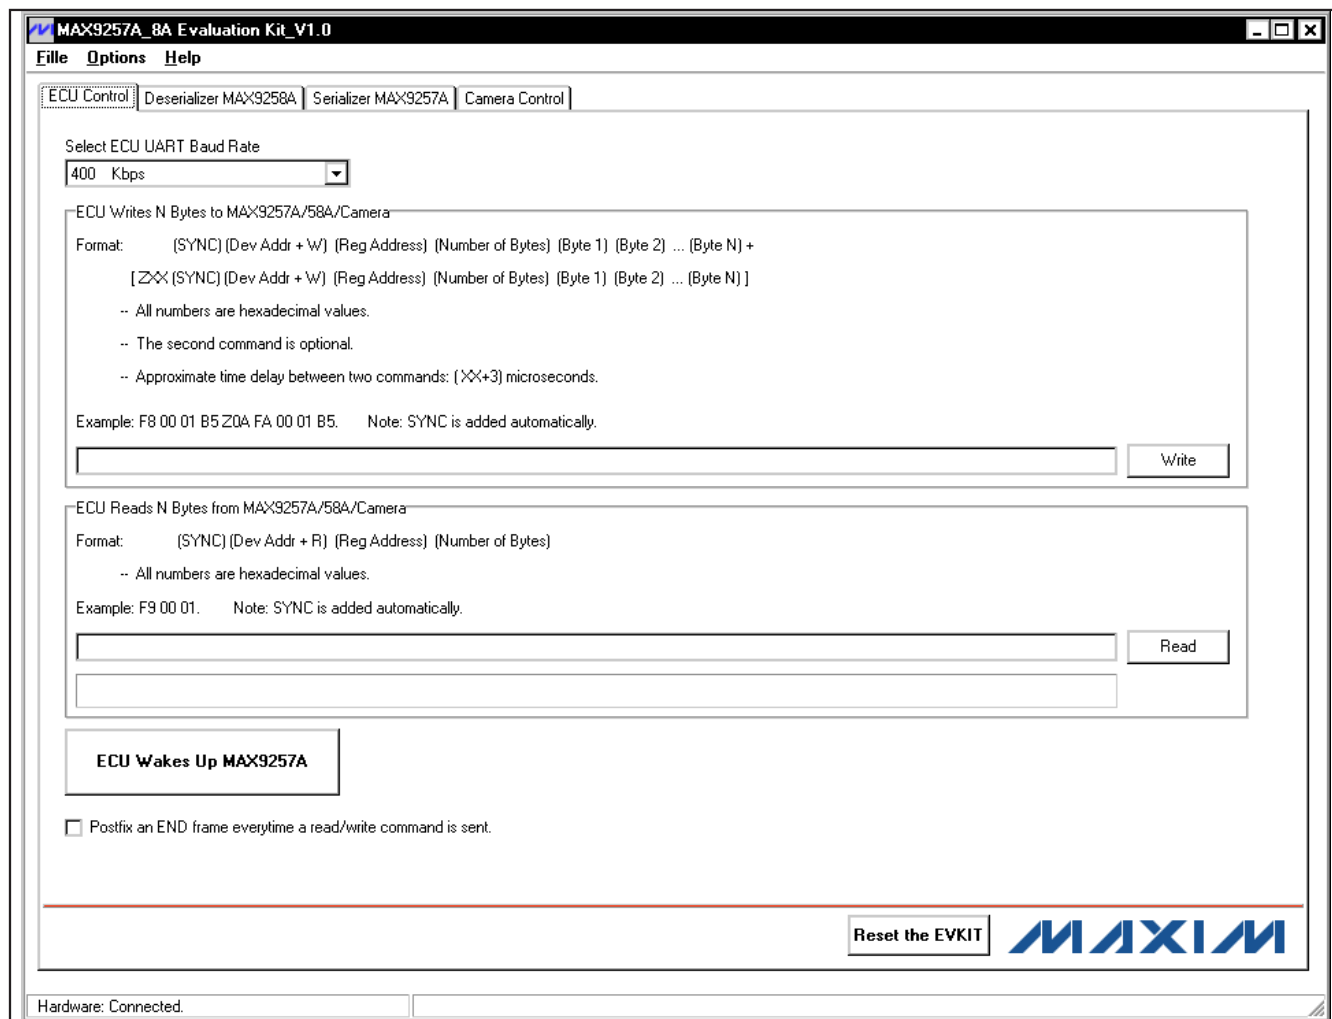

Figure 3. MAX9257A/MAX9258A Evaluation Kit Software—ECU Control Tab
- 14) Verify that the software main window shows up next (Figure 3).
The **ECU Control** tab sheet (Figure 3) lets the ECU configure the MAX9258A, MAX9257A, and the camera.
- 1) Start the program or press the **Reset the EVKIT** button on the **ECU Control** tab sheet (Figure 3).